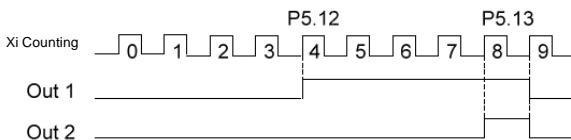

Fig.6-18 Schematic diagram for the preset and reaching counting value reference
2. The terminal Yi is set to “10: Preset counting value action”, and the action sequence is shown as Out1 in Fig.6-18. Effective level will be output when the counting value is between the values of P5.12 and P5.13.
The terminal Y1 is set to “11: Reaching counting value action”, and the action sequence is shown as Out2 in Fig.6-18. Effective level will be output and kept till the counting value changes when the counting value reaches the value of P5.13.